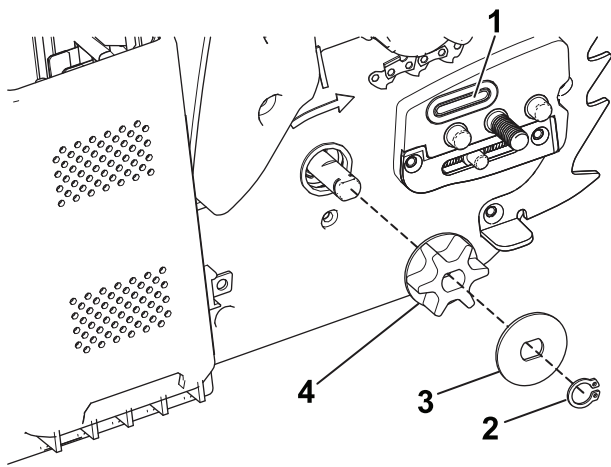

**Figure 30**
5. Tighten the wing nut until it is snug and fold the wing-nut tab (Figure 30).
2. Unfold the wing-nut tab and remove the wing nut that secures the cover (Figure 30).
3. Loosen the chain by turning the chain-tightening screw counterclockwise (Figure 30).